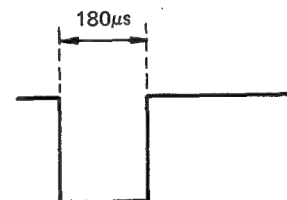

Figure 8-24.
3. Selecting (–) sync slope with the oscilloscope, adjust R2014 to meet the requirement given in Figure 8-24.